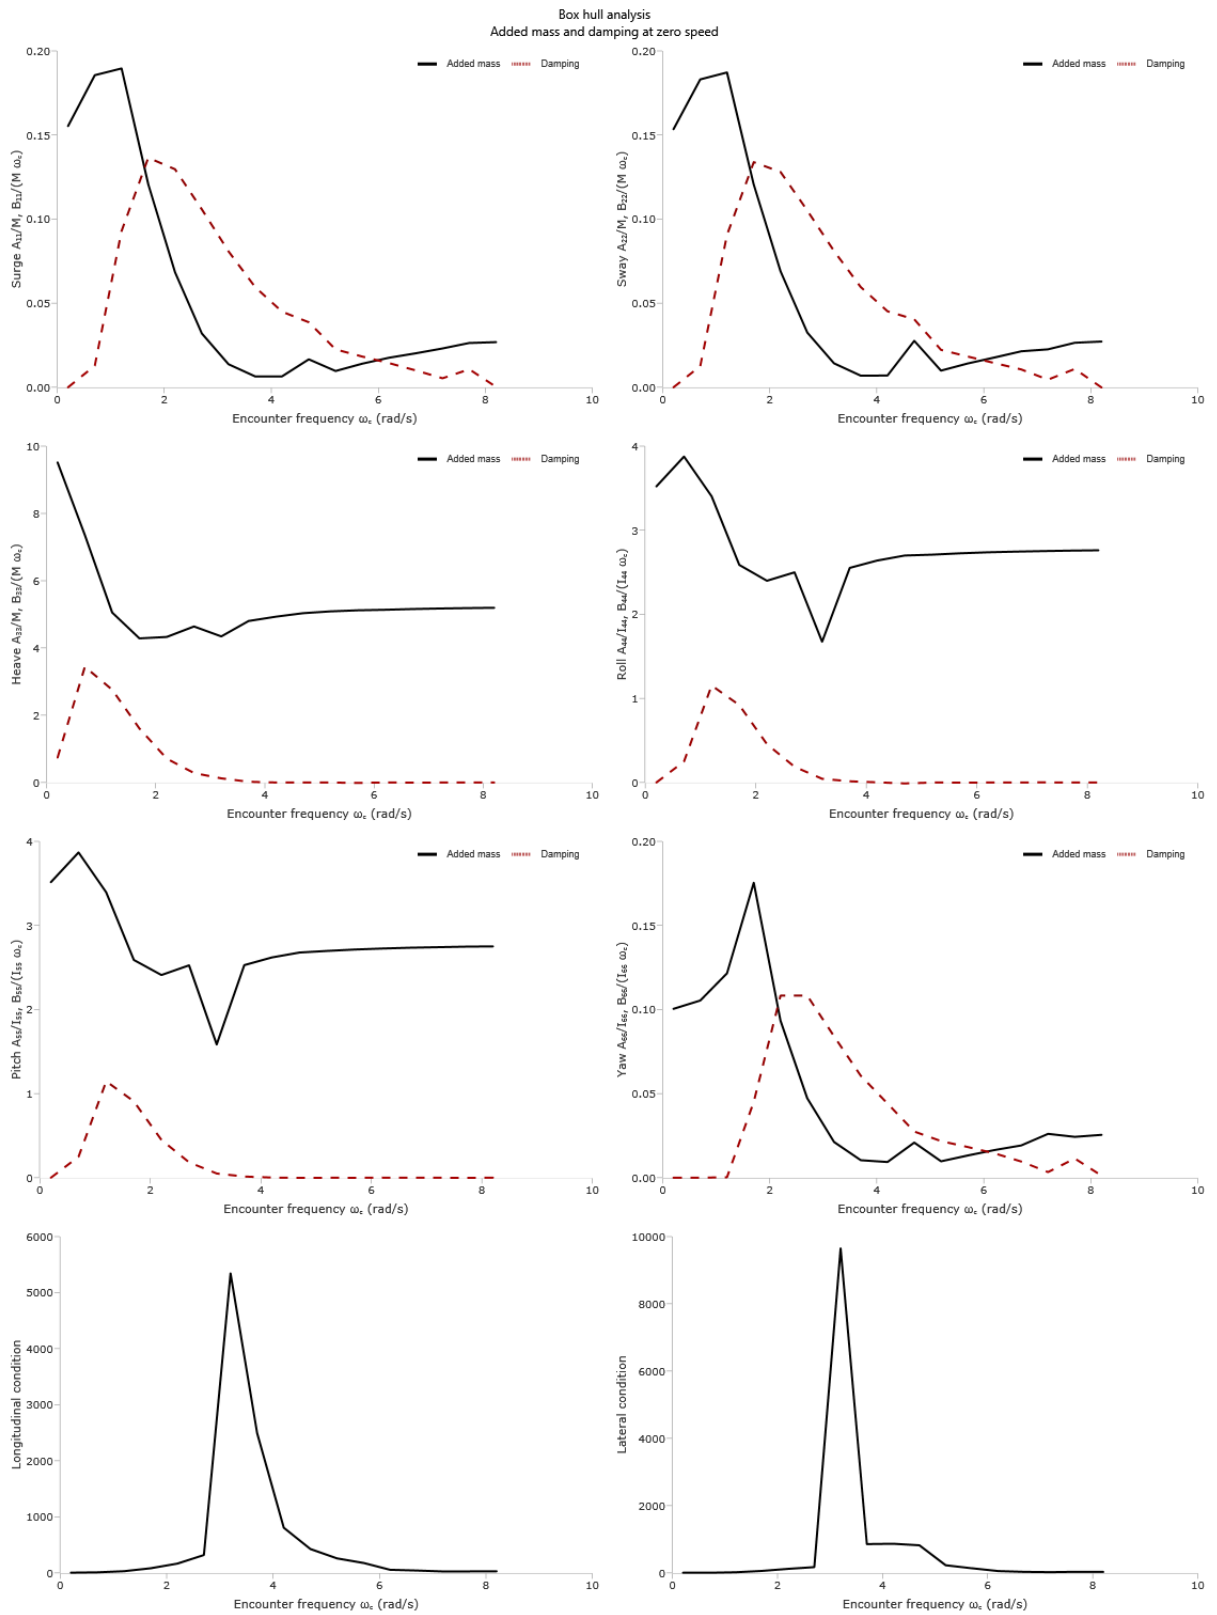

Figure 34: A plot of non-dimensional added-mass and damping plotted against oscillation frequency for the 20m x 20m x 2m box case.
- ☞ A new pane should have opened titled 'Plot RadCo' with non-dimensional added mass and damping plotted against oscillation frequency. The plot should resemble the one shown in figure 34.